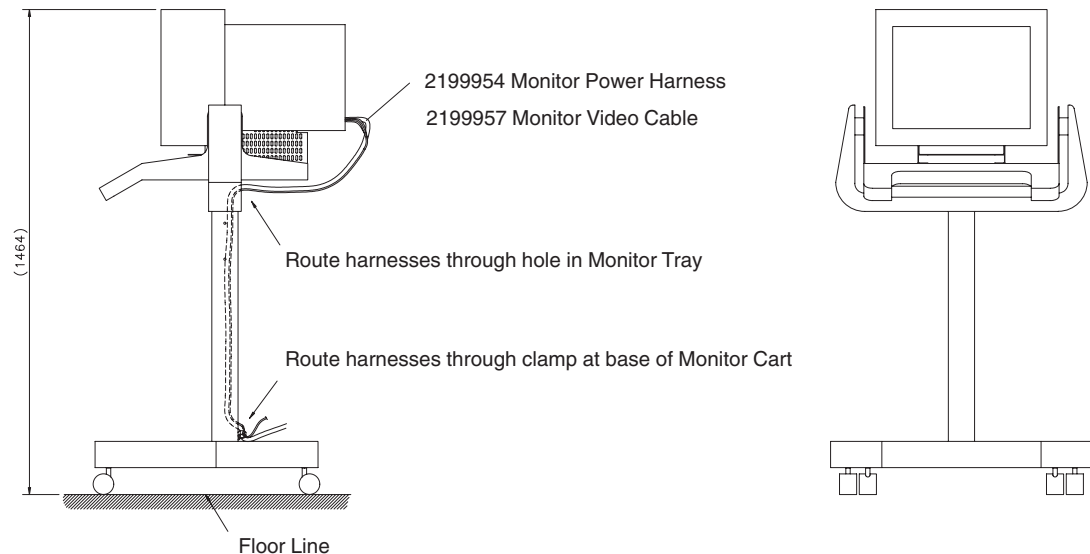
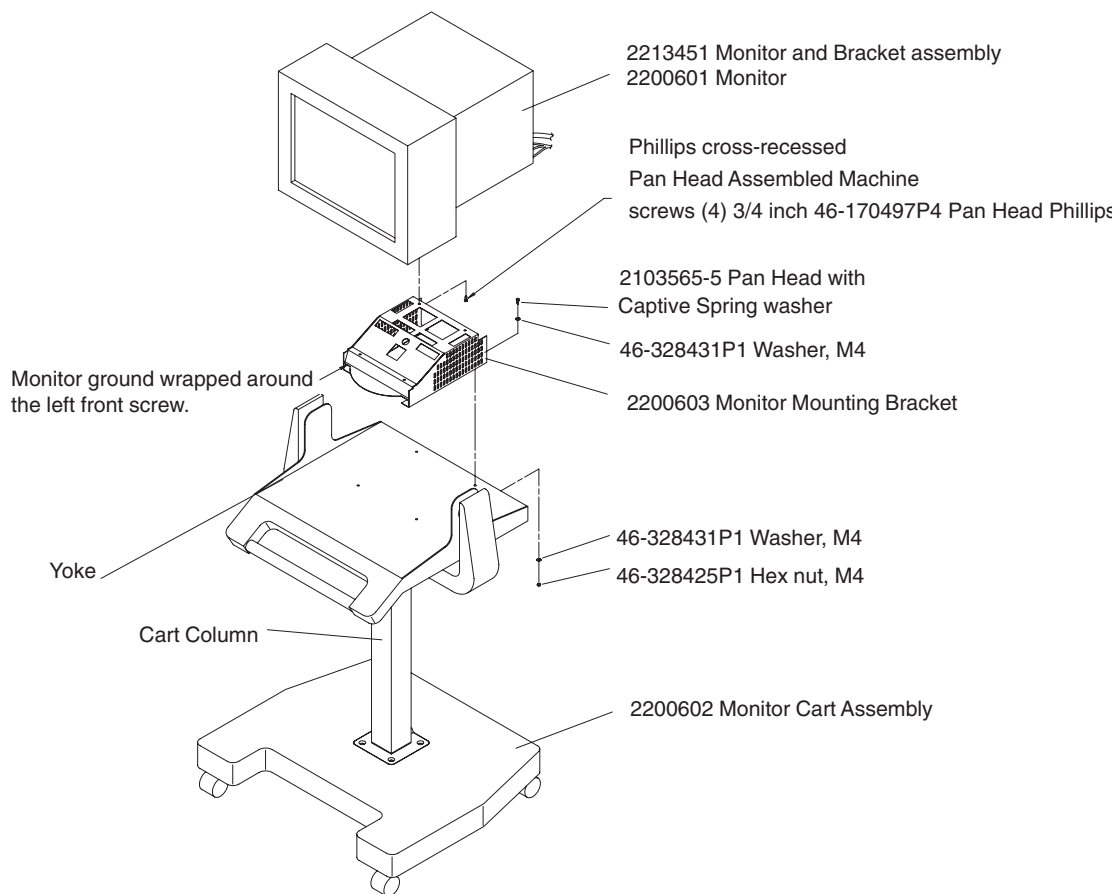

Figure 1-5 Route CRT Harnesses Through Monitor Cart
Figure 1-6 CRT Monitor Cart Assembly
- 4.) Refer to Figure 1-5 and Figure 1-6.